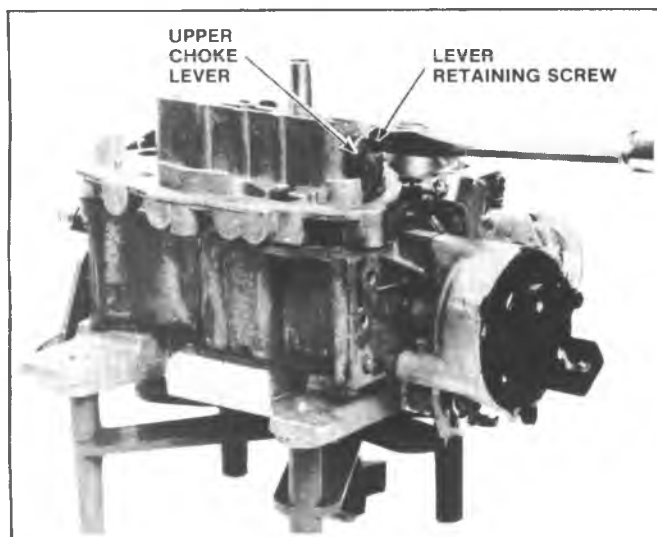

Fig. 6C3-17—Removing Upper Choke Lever
1. Remove upper choke lever from the end of choke shaft by removing retaining screw (Fig. 6C3-17). Then rotate upper choke lever to remove choke rod from slot in lever.
3. With Tool J-25322 drive roll pin (pump lever pivot pin) inward just until pump lever can be removed from air horn. Then remove pump lever from pump rod (Fig. 6C3-18). Note location of accelerator pump rod for reassembly.
4. Remove seven air horn to bowl attaching screws; two countersunk attaching screws are located next to the venturi (Fig. 6C3-19).
5. Remove air horn from float bowl by lifting straight up. The air horn gasket should remain on the float bowl for removal later (Fig. 6C3-20).
Remove front vacuum break hose. Then remove two attaching screws and remove vacuum break control and bracket assembly. (Fig. 6C3-21). Do not place vacuum break assembly in carburetor cleaner.